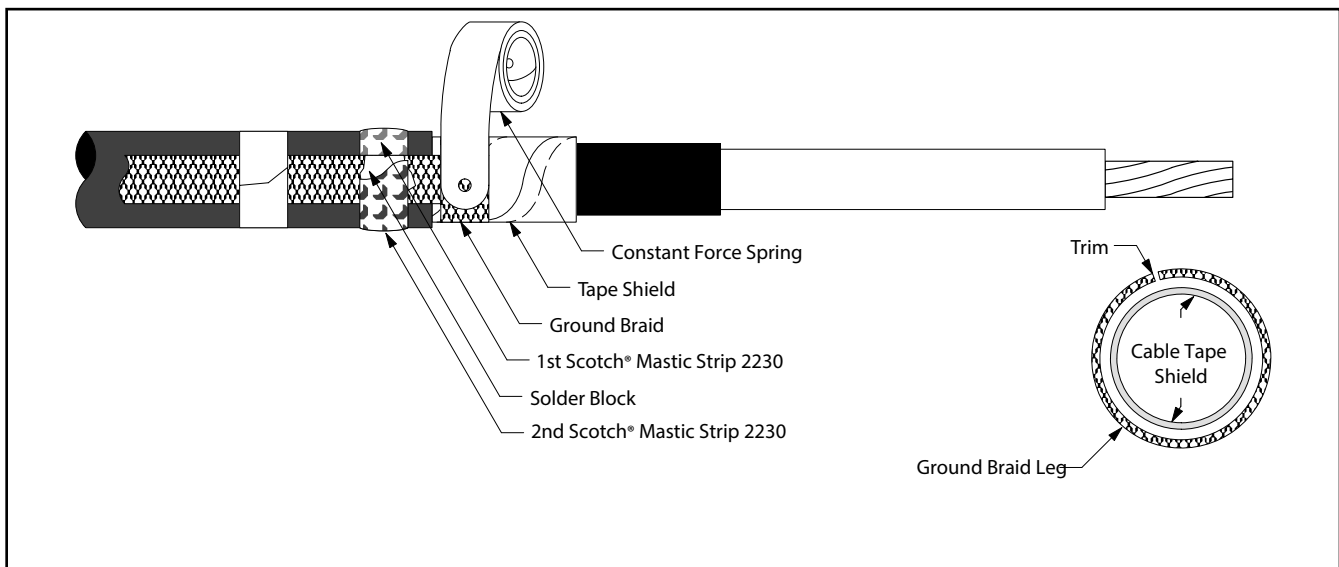

Figure 4
- 3.3 Wrap ground braid around cable tape shield one complete wrap, trim excess to prevent overlap and secure in place with constant force spring. Wrap spring in same direction as ground braid (Figure 4). Cinch (tighten) the spring after wrapping the final winding.
- 3.4 Select second Scotch® Mastic Strip 2230 from kit and remove white release liners. Apply a second **SINGLE WRAP** of mastic over solder block on ground braid and previously applied mastic (Figure 4). Cut off excess.